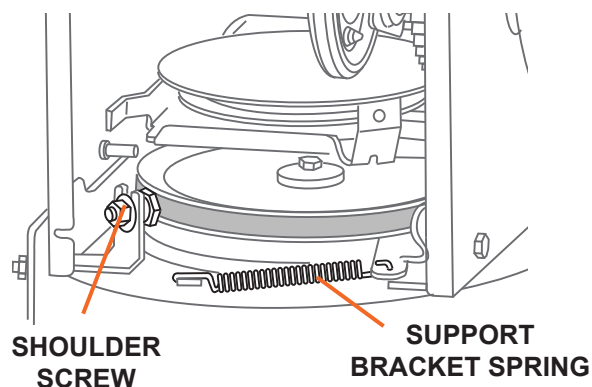

Figure 22
4. Loosen and remove the shoulder screw which restrains the belt from jumping off of the pulley. Unhook the support bracket spring from the frame (see Figure 22).